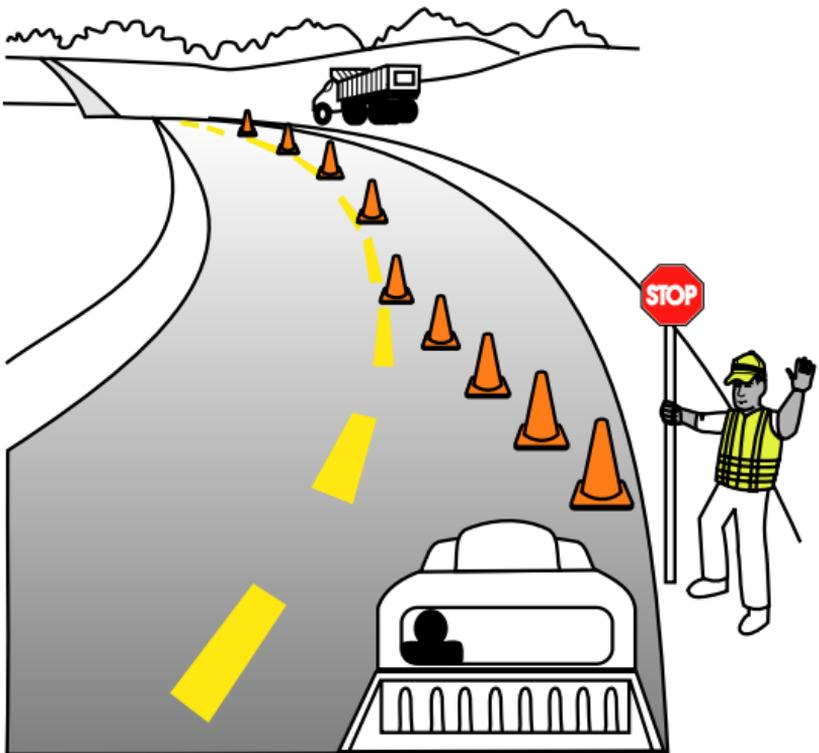

Figure 3
1. Stand on the shoulder of the road holding the STOP/SLOW sign in your right hand, erect and away from your body with STOP facing the approaching traffic (see Figure 3).